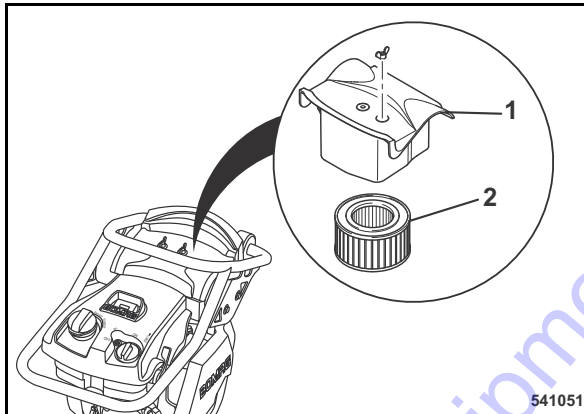

Fig. 78
- Remove cover (1) (Fig. 78), carefully take out filter cartridge (2).
- Insert the filter cartridge (2) (Fig. 78) and close the air filter cover (1).